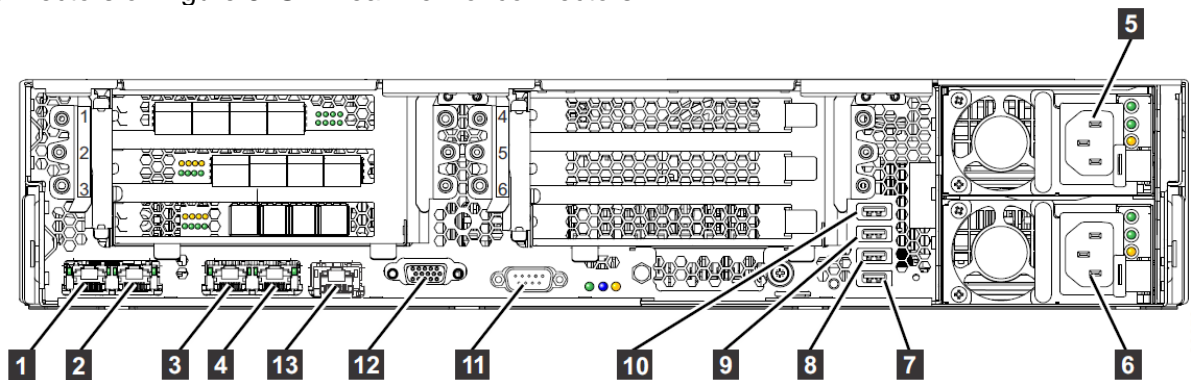
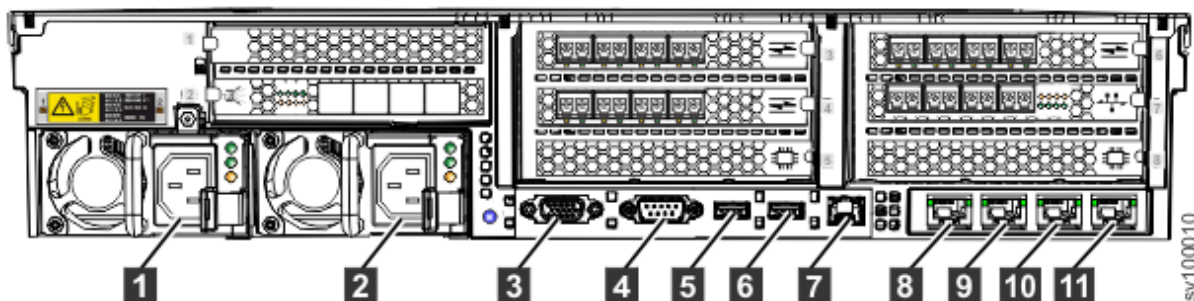

Figure 7. DH8 rear view of connectors
Figure 8. SV1 rear view of connectors
- \_\_\_ 28. If you are going to remove the node from the rack then carefully label the port number position of each Fibre Channel cable, Ethernet cable and SAS cable; then disconnect the Fibre Channel cables, Ethernet cables and SAS cables from the rear panel. See Figure 7. DH8 rear view of connectors Figure 7. DH8 rear view of connectors or Figure 8. SV1 rear view of connectors.
- \_\_\_ 29. Disconnect the power cords from the rear panel. See Figure 7. DH8 rear view of connectors or Figure 8. SV1 rear view of connectors.
- \_\_\_ 46. Reconnect the cables to the DH8 or SV1 node, ensuring that each data cable is reconnected to the same port from which it was removed. See Figure 7. DH8 rear view of connectors or Figure 8. SV1 rear view of connectors.